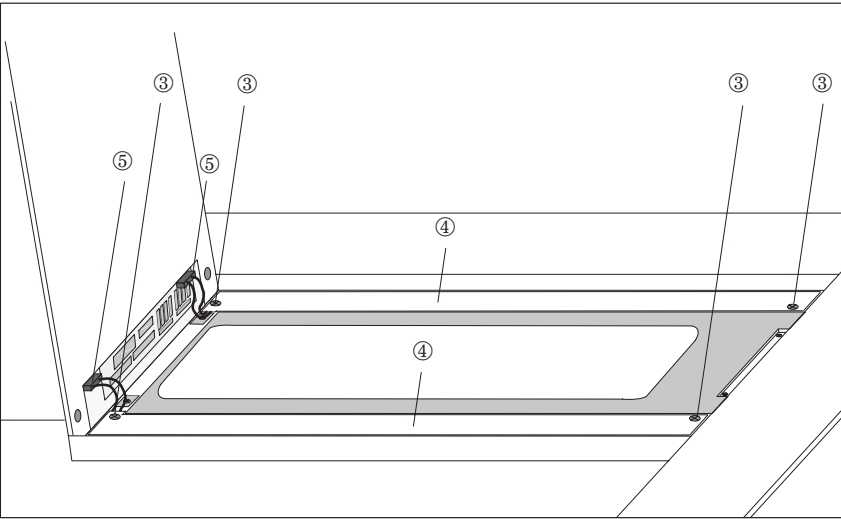

Figure 18-1 Replacing the back-lighting
| 3    | <p>Undo two screws per fluorescent tube ③ (figure 18-1) and remove the covers ④.</p>   |